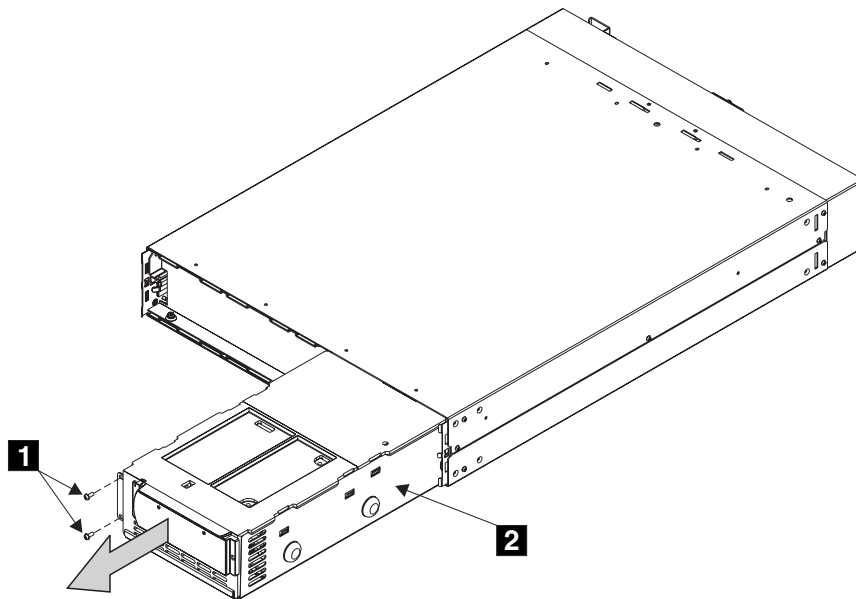

Figure 267. Removing the electronics unit from the 2145 UPS
4. Remove the two screws (**1** in Figure 267).
5. Pull the electronics assembly (**2** in Figure 267) out from the 2145 UPS.